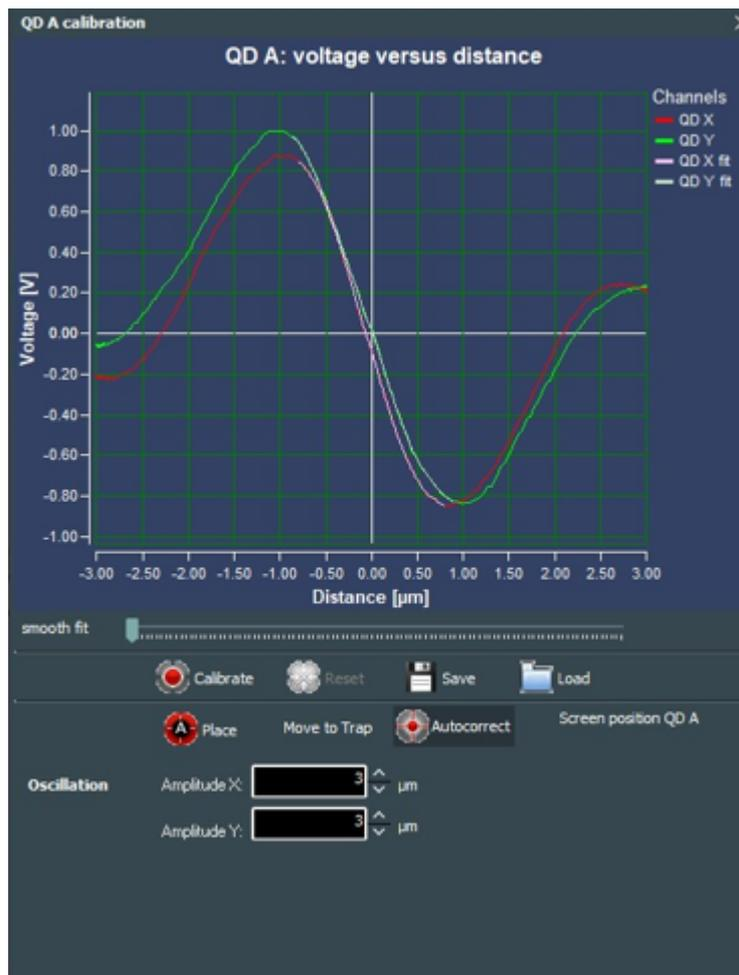

Figure 6.26: Response curve of a quadrant detector in imaging mode during calibration
In the calibration procedure for the bead displacements, a bead is moved along one axis using an optical trap, and the QD response is measured and fitted to a curve (see Fig. 6.26). The curve model is subsequently used to translate QD voltage response to μm displacement.
- Calibration starts with the horizontal (X) axis. Data is acquired and displayed in the graph. This should take approx. 10 seconds.
- The graph shows the data acquired and the fitted curve. To obtain an optimal fit, adjust the smoothing parameter and the fit region by using the smooth fit slider and the vertical bars in the plot window (see Fig. 6.26). Then click the **Accept** button.
- Calibration will continue with the vertical (Y) axis. Adjust smoothing, then click **Accept** to finish.